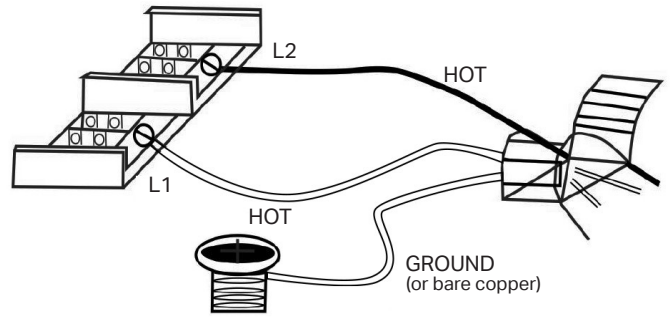

Figure 7
Remove screws from the panel to access power block, see **Figure 7**.
3. Pull enough wire into the heater and connect to wire to the Power Block located in the electrical area of the heater (See **Figure 7**).